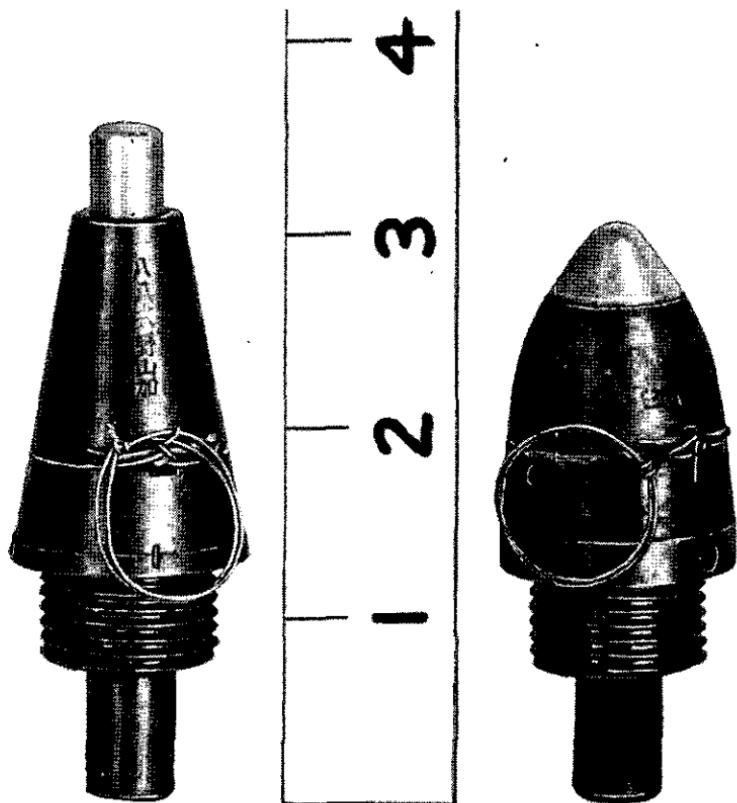

Figure 149.—Fuzes for 70- and 75-mm shells: instantaneous type (left) and delayed-action type (right).
Instantaneous or delay fuzes are used. Both are designated Model 88 and are used also in the ammunition for the Model 41 (1908) 75-mm mountain gun. (See par. 38e (4), p. 227, and fig. 149, p. 228.)
(4) *Fuzes.*—The fuzes used are the Model 88 instantaneous and Model 88 delayed-action (estimated delay, 0.05 second) (fig. 149). These same fuzes are used in the ammunition for the Model 92 (1932) 70-mm infantry howitzer (battalion gun) (par. 37e,